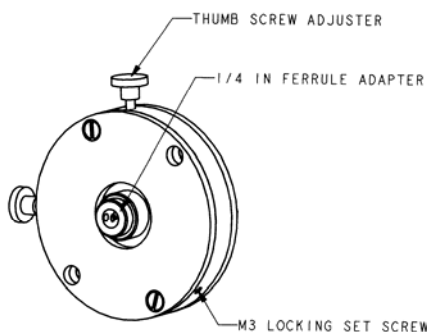

Figure 25. XY Fiber Optic Mount Adjustments
4. Use the thumb screws of the fiber mount to adjust fiber position. Once the fiber is correctly positioned, adjust the M3 locking set screw to secure the fiber in place (see Figure 25).